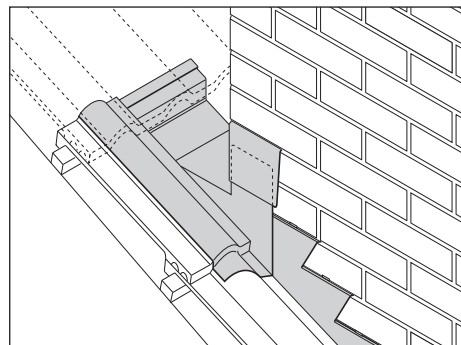

Fig. 29 – Back gutter
- 5 Dress upper edge of lead over tilting fillet and turn it back to form a welt (Fig. 29).